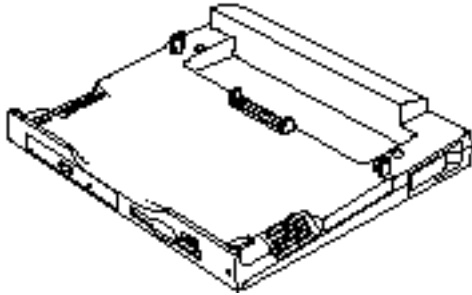

Figure 1-4 LAN Enhancement Unit
- LAN Enhancement Unit (located in the accessories box). (Figure 1-4.)